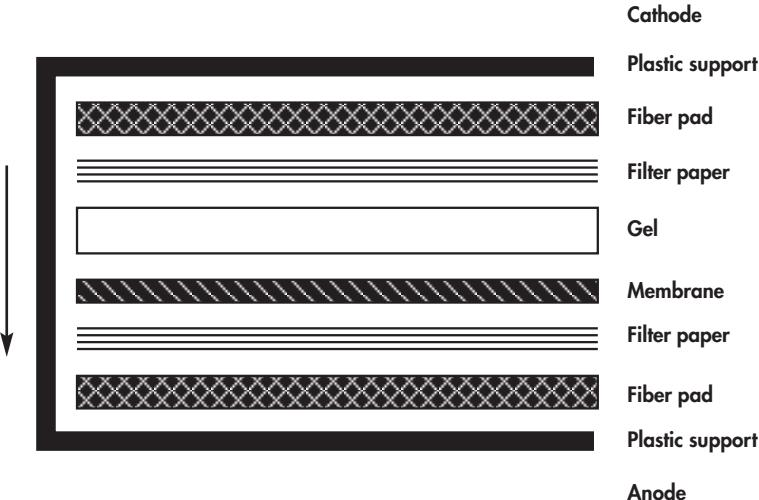

Figure 10. Schematic drawing of indicated blotting methods. Arrows show direction of transfer.
- Avoiding air bubbles, place 4 sheets of filter paper on the cathode (negative, usually black), followed by the gel, the membrane, 4 sheets of filter paper, and finally the anode (positive, usually red). See Figure 10.**
- Avoiding air bubbles, place 4 sheets of filter paper on the fiber pad, followed by the gel, the membrane, 4 sheets of filter paper, and finally the other fiber pad (see Figure 10).**